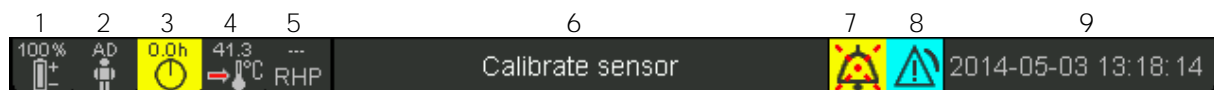

Figure 8 The Status Bar
Note: The 'Patient Info' is also duplicated in the SDM's main menu (Table 36) and - if no Status Message has to be displayed - in the SDM's status bar (Figure 8) enclosed in "[and]".
<p>Example of a Menu screen</p>	<p>A blue (or yellow), underlying bar highlights the selected sub-menu, menu parameter or function.</p> <p>Current value/alarm limits of monitored parameters (except for PO2) are displayed on the right and the 'Status Bar' (Figure 8) with Status Message and Status Icons is located in the bottom.</p>
-  **Note:** The Status Bar (Figure 8) and the visual alarm signals provided therein are not displayed on the 'Review Trend Data Screen' (Figure 11), the 'Trend Data Statistics Screen' (Figure 12), the 'V-Check Results Screen' (Figure 17) and the 'Ready for use' screen (4.2.4).
The Status Bar (Figure 8) is located at the bottom of all 'Measurement' screens (4.2.3), of all 'Menu' screens (4.2.5) and of the 'Calibration' screen (4.2.4).
On the left side of the Status Bar (Figure 8), the following five Status Icons are displayed:
The 'Alarm Status Icon' in the Status Bar (Figure 8) meets the requirements of IEC 60601-1-8 (Table 2) and indicates the priority of the highest priority alarm condition. If two or more alarm conditions occur at the same time, it indicates the highest currently active alarm priority.